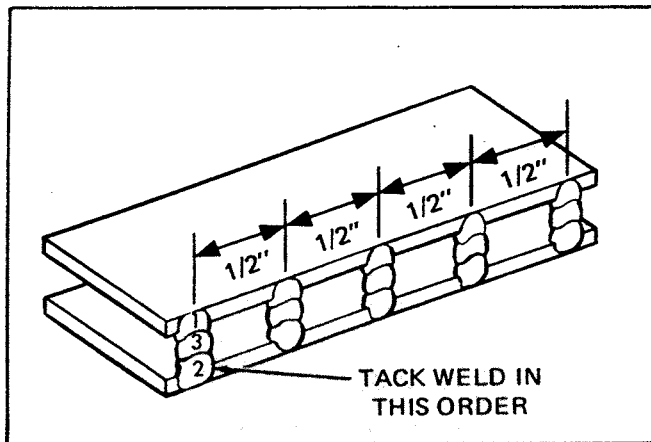

Figure 28
2. Bridge across the gap at intervals approximately $\frac{1}{2}$ " apart by making short tack welds on each side of the gap and letting each one cool before proceeding. See Figure 28